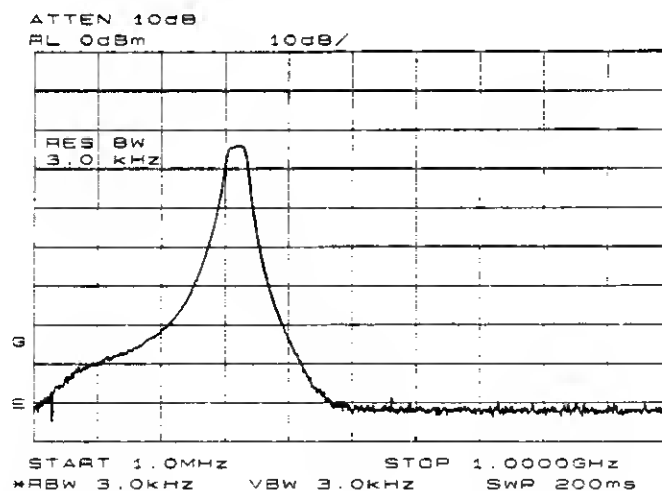

Figure 3-20. Decrease the resolution bandwidth to improve sensitivity.
4. Decrease the resolution bandwidth to increase sensitivity, and narrow the video bandwidth to smooth the noise. In Figure 3-20, the resolution bandwidth has been decreased to 3 kHz.